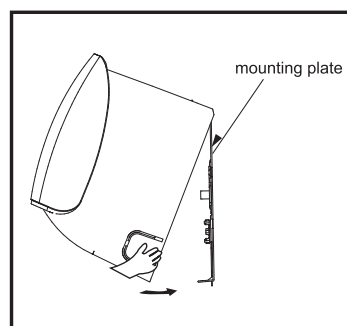

Fig. 7
- 1) Hang the unit onto mounting plate(Fig. 7).